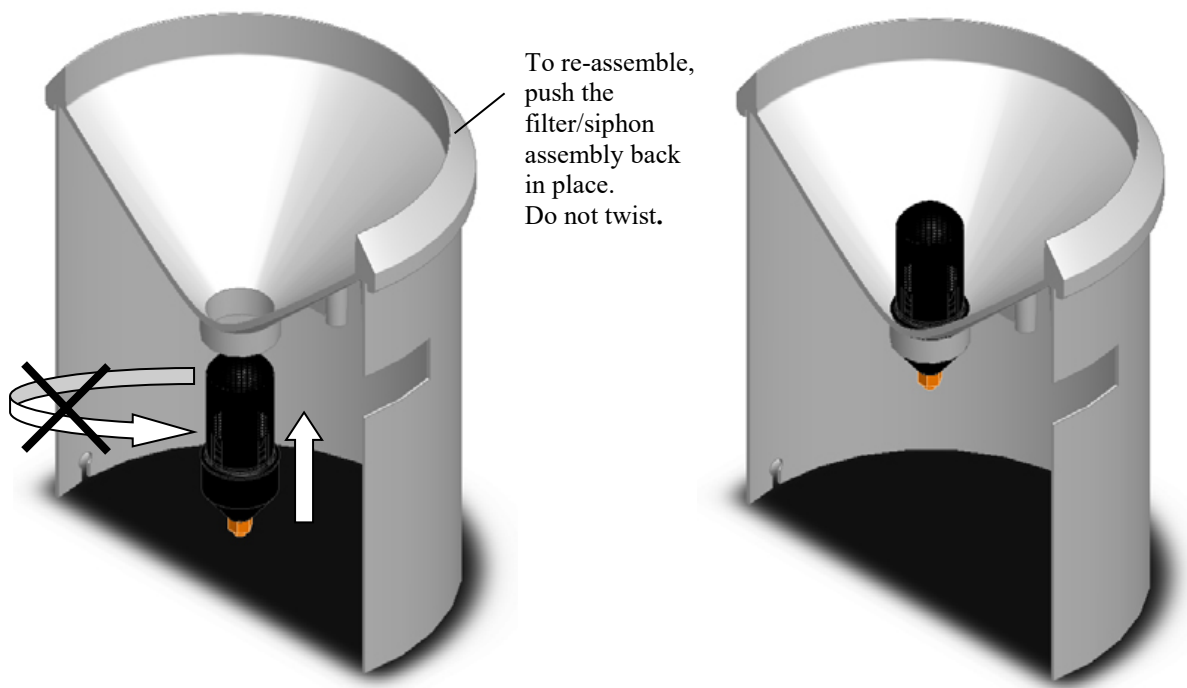

FIGURE 9-4. Reassembling the CS700
4. Push filter/siphon assembly back into place (see FIGURE 9-4).